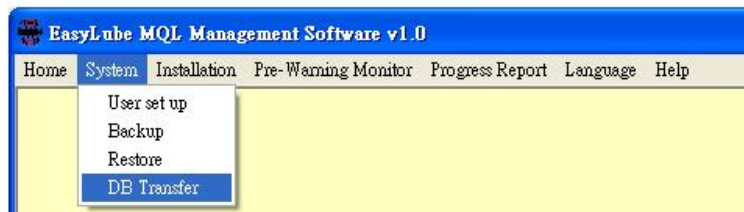

Fig.3
- 3 For initial setup; click shortcut of MQL Management Software on screen, go to **System** ICON (Fig.3) and click **User Set Up**. User set up table will appear on screen, follow the instructions and fill in the blanks as requested including User and Supplier information.
- 3 Connect your HP iPAQ to the computer, go to **System** ICON (Fig.3) and click **DB TRANSFER**; DATA Transfer processing table will appear on screen, follow the instructions on the screen to complete uploading of data.
The **SYSTEM** ICON (Fig.3) included: